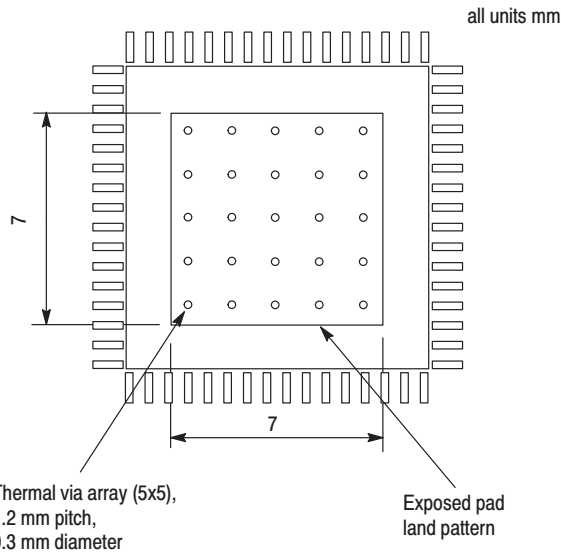

Figure 3. Recommended thermal land pattern
The MC100EP220 uses a thermally enhanced exposed pad (EP) 52 lead LQFP package. The package is molded so that the leadframe is exposed at the surface of the package bottom side. The exposed metal pad will provide the low thermal impedance that supports the power consumption of the MC100EP220 high-speed bipolar integrated circuit and eases the power management task for the system design. A thermal land pattern on the printed circuit board and thermal vias are recommended in order to take advantage of the enhanced thermal capabilities of the MC100EP220. Direct soldering of the exposed pad to the thermal land will provide an efficient thermal path. In multilayer board designs, thermal vias thermally connect the exposed pad to internal copper planes. Number of vias, spacing, via diameters and land pattern design depend on the application and the amount of heat to be removed from the package. A nine thermal via array, arranged in a 3 x 3 array and using a 1.2 mm pitch in the center of the thermal land is the absolute minimum requirement for MC100EP220 applications on multi-layer boards. The recommended thermal land design comprises a 5 x 5 thermal via array as shown in Figure 3 “Recommended thermal land pattern”, providing an efficient heat removal path.